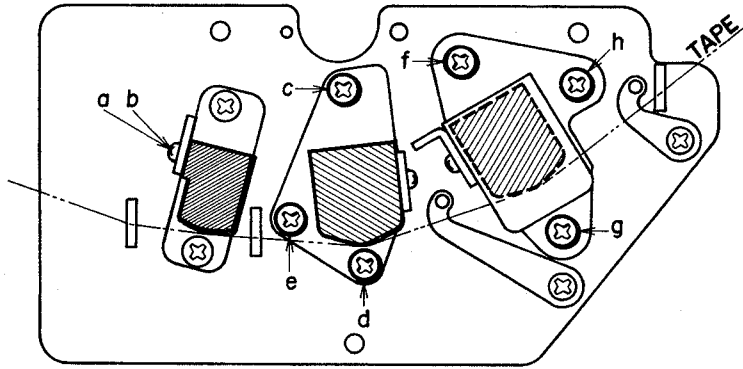

Fig. 9
1. HEAD HEIGHT ADJUSTMENTS (See Figs. 9, 10)
2. HEAD SLANT ADJUSTMENT (See Figs. 9, 10)
3. HEAD AZIMUTH ALIGNMENT ADJUSTMENTS (See Figs. 9, 10)